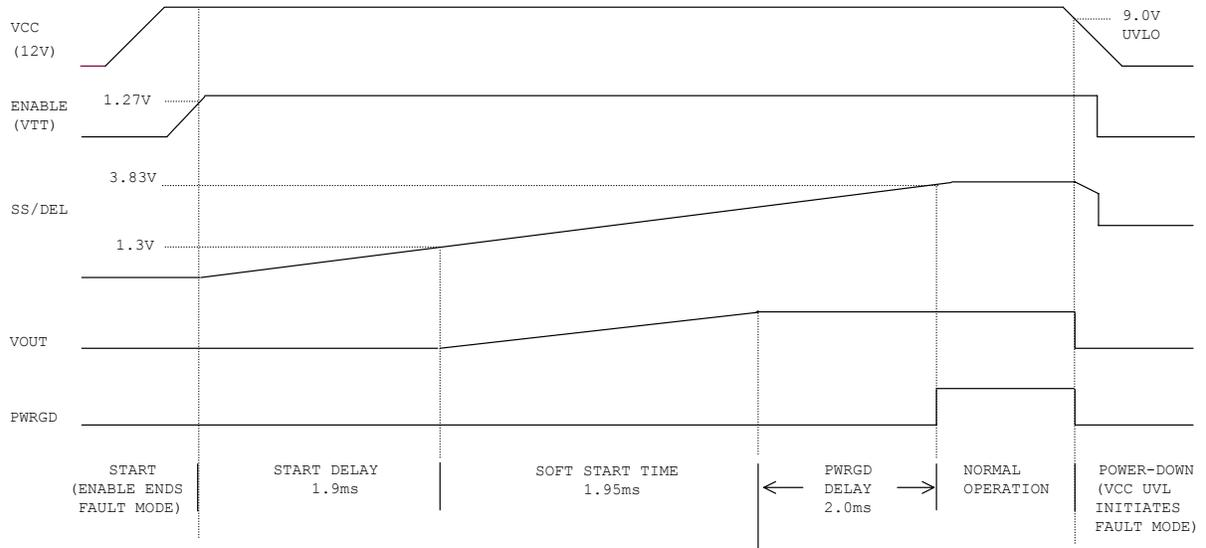

Figure 10 – Start-up Waveforms
The IR3082PbF has a programmable soft-start function to limit the surge current during the converter start-up. A capacitor connected between the SS/DEL and LGND pins controls soft start as well as over-current protection delay and hiccup mode timing. A charge current of 66 μ A and discharge current of 6 μ A control the up slope and down slope of the voltage at the SS/DEL pin respectively. Soft start-up waveforms are shown in Figure 10.
The SS/DEL pin voltage controls the slew rate of the converter output voltage, as shown in Figure 10. After the ENABLE pin voltage rises above 1.23V, there is a soft-start delay time t_{SSDEL} , after which the error amplifier output is released to allow the soft start. The soft start time t_{ss} represents the time during which the output voltage rises from zero to V_o . t_{ss} can be programmed by an external capacitor, which is determined by Equation (1).